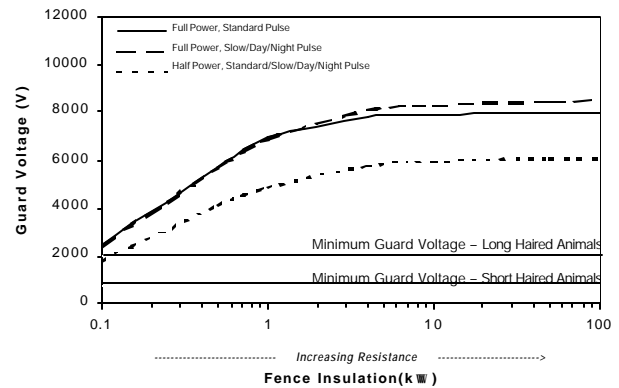

Figure 57. Guard Voltage for 3.3 mile (5.4 km) Fence
**Shock Delivery:** Figures 57 and 58 show guard voltage outputs of the Gallagher PowerBox B300 for 3.3 and 10 mile (5.4 and 16 km) lengths of single wire fence over a range of resistances. Table 26 provides the guard voltages at the "weeded" and "clean" fence conditions. Guard voltage values for other fence conditions are given in Appendix II. The higher the guard voltage the higher the shock delivered to the animal.
As can be seen from **Figures 57 and 58**, low resistance did not appreciably affect shock delivery, since the voltage output was above 2,000 V for nearly all fence conditions and above the 700 V minimum guard voltage for all fence conditions. The Gallagher PowerBox B300 can be expected to deliver shock over a wide range of fence conditions.